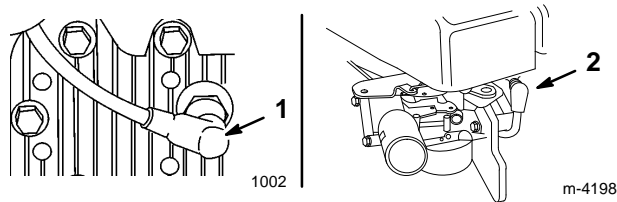

Figure 5
1. Pull the wire off of the spark plug (Fig. 5).
5. Connect the spark plug wire (Fig. 5).